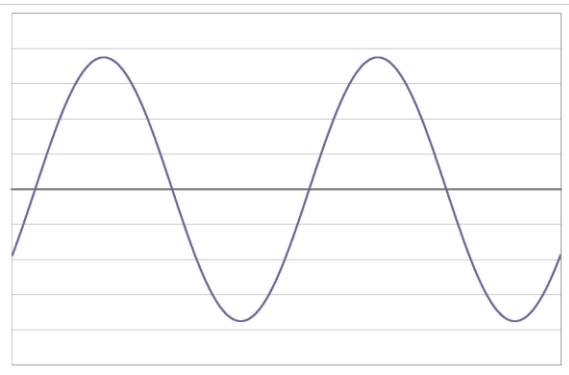

Figure 6
- Just like Voltage, Current is equivalent to the RMS Current (Arms) and is shown in Figure 6.